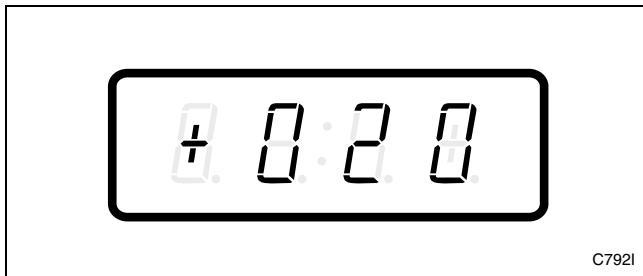

Figure 82
3. Press the LOW TEMP (+) or the NO HEAT (-) keypad to scroll through the programmable options until “+020” appears in the VFD. Refer to *Figure 82*.